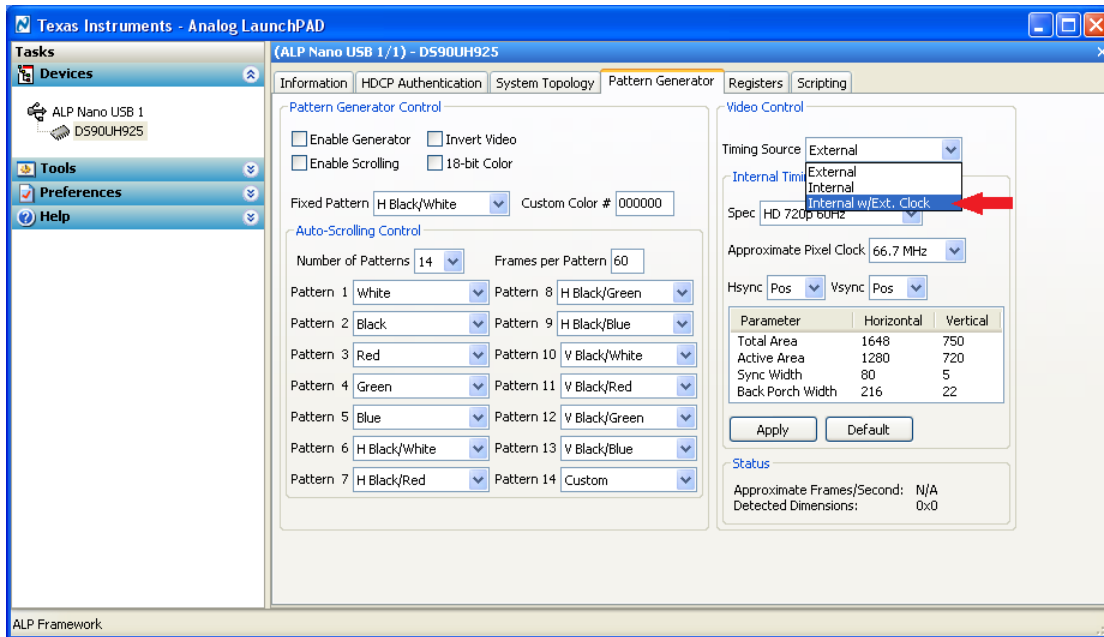

Figure 4-2. Timing Source ⁽⁴⁾ ⁽⁵⁾
- Under **Video Control**, select **Timing source** as **Internal** or **Internal w/Ext. Clock** as shown in **Figure 4-2**.